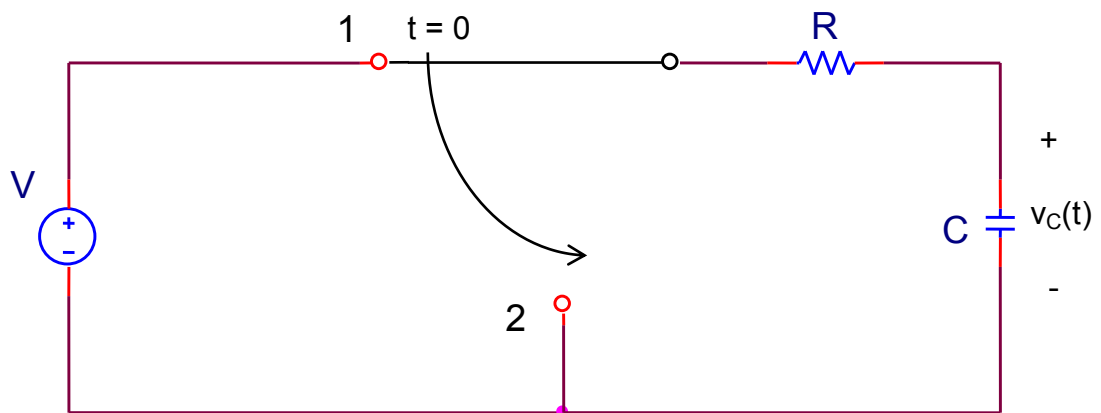
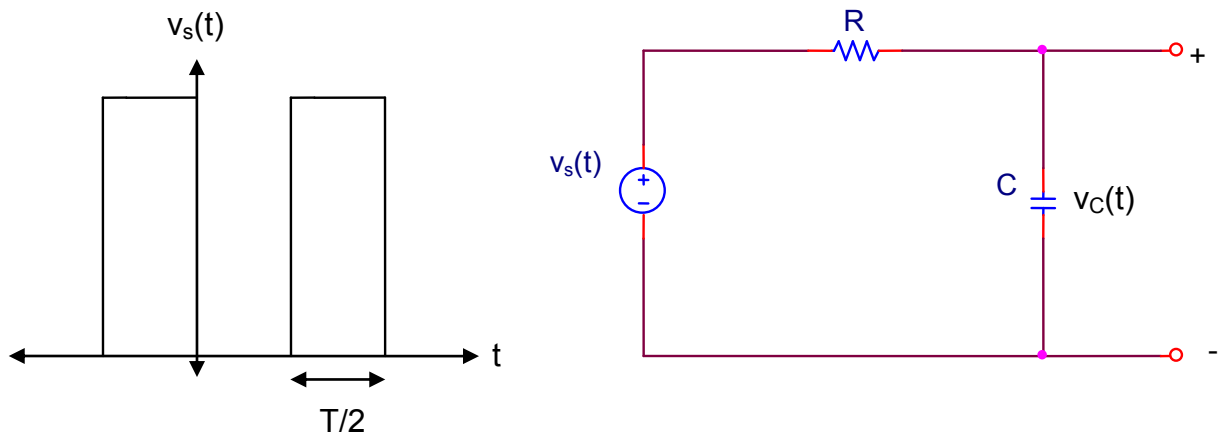

Figure 7.7
Figure 7.8
The natural response of RC, RL and RLC circuits can be demonstrated with the use of a square wave function generator. Consider Figure 7.7. The switch is left in position 1 for a "long time" so that the capacitor charges to V volts. When the switch is moved to position 2 (at $t = 0$) the capacitor discharges and we have the natural response of the RC circuit. The circuit in Figure 7.8 provides the same result repeatedly for the ease of viewing on the oscilloscope as long as $T/2$ is long compared to the circuit time constant, RC .
2. Construct the circuit in Figure 7.8. Use $R = 470\Omega$ and $C = 0.1\mu\text{F}$. Set the function generator for a 1 volt peak-to-peak square wave of 2 KHz. Use the oscilloscope to observe, $v_C(t)$. Sketch the portion of the waveform in which the capacitor is discharging. Use your sketch to determine the time constant of the circuit. Compare this to the theoretical time constant (be sure to include the internal resistance of the source).
7. Use PSPICE¹ (TRANSIENT ANALYSIS) to plot $v_C(t)$, $t > 0$, for the circuit in Figure 7.7. Compare your output to the sketch obtained in the lab. Do this for $C = 0.1\mu\text{F}$ and $R = 470\Omega$ and $6.8\text{k}\Omega$ ohms.